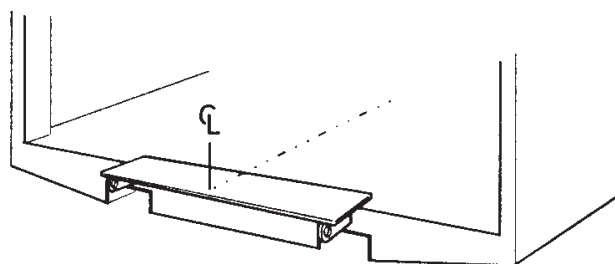

Figure 19. Fasten or spot-weld the assembly jig to the rear beam
2. Fasten or spot-weld the assembly jig to the rear beam so that each centre point aligns. See Figure 19. Art. no. 572650TL for ZHD 3000.